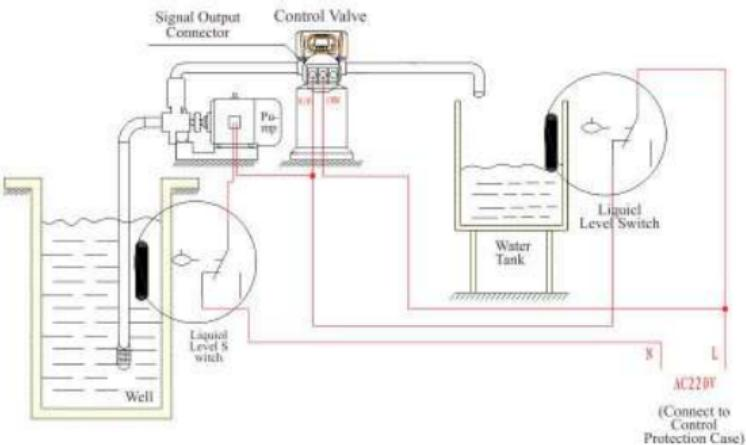

Figure 3-5 Wiring of Liquid Level Controller Controls Inlet Pump
**Instruction:** For the system using well or middle-tank supplying water, switch of liquid level controller and valve together control pump opening or closing. The wiring refers to Figure 3-5.